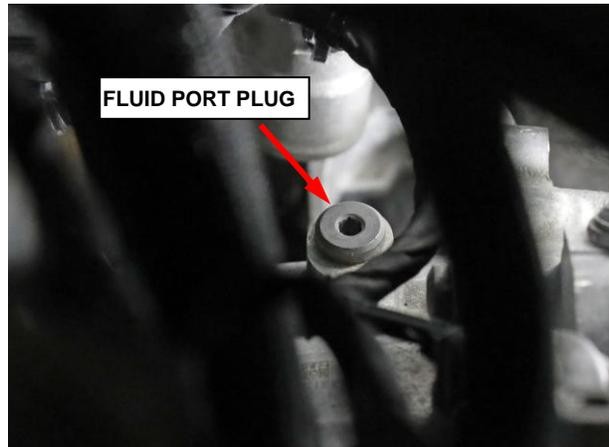

Figure 18 – Fluid Port
49. Remove the plug (1) from the fluid level check port (Figure 18).